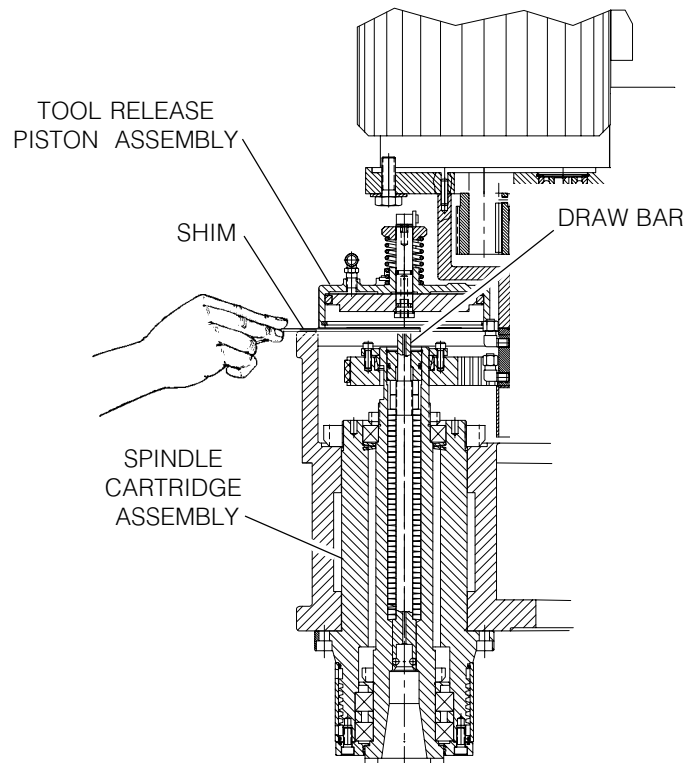

Fig. 6-10 Placement of shim before checking switch adjustment.
6. Place a **shim** (approximately .020 thick), or the flexible ruler, between the **tool release piston** and the draw bar (See Fig. 6-10).